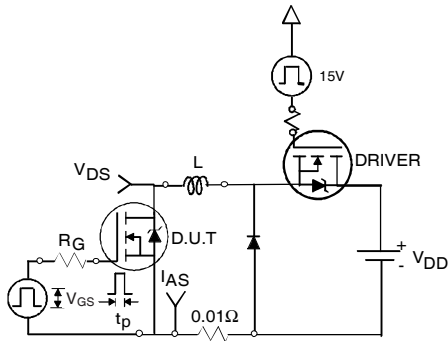

Fig 12a. Unclamped Inductive Test Circuit
- ③ Pulse width $\leq 1.0\text{ms}$; duty cycle $\leq 2\%$.
- ④ $C_{\text{oss eff.}}$ is a fixed capacitance that gives the same charging time as C_{oss} while V_{DS} is rising from 0 to 80% V_{DSS} .
- ⑤ Limited by T_{Jmax} , see Fig.12a, 12b, 15, 16 for typical repetitive avalanche performance.
- ⑥ This value determined from sample failure population. 100% tested to this value in production.
- ⑦ This is only applied to TO-220AB package.
- ⑧ When mounted on 1" square PCB (FR-4 or G-10 Material). For recommended footprint and soldering techniques refer to application note #AN-994.
- ⑨ Calculated continuous current based on maximum allowable junction temperature. Bond wire current limit is 120A. Note that current limitations arising from heating of the device leads may occur with some lead mounting arrangements.
- ⑩ All AC and DC test condition based on former Package limited current of 75A.
3. Equation below based on circuit and waveforms shown in Figures 12a, 12b.